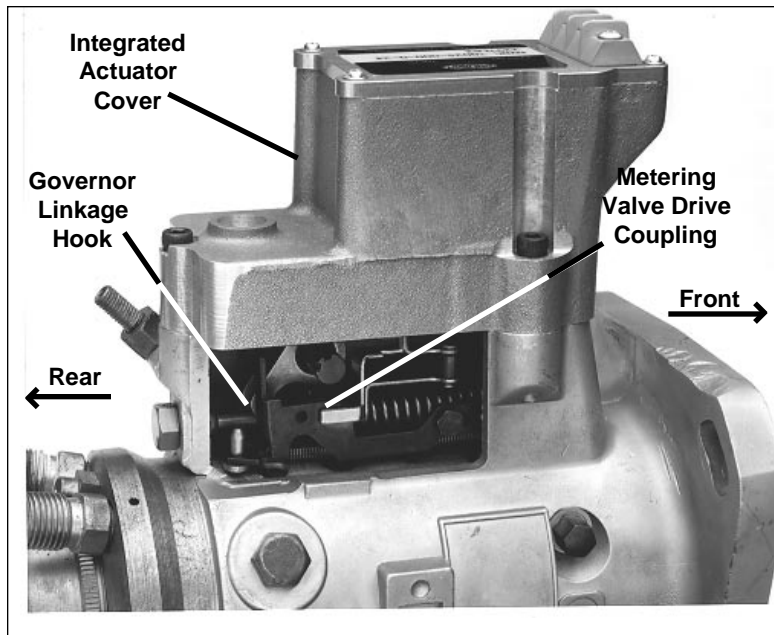

Figure 5
2.3 Carefully slide the INTEGRATED ACTUATOR COVER toward the rear of the pump until the horseshoe portion of the METERING VALVE DRIVE COUPLING contacts the pump's GOVERNOR LINKAGE HOOK as shown in *Figure 5*. Once contact has been made, continue moving the INTEGRATED ACTUATOR COVER in the same direction until the mounting holes between the INTEGRATED ACTUATOR COVER and the PUMP BODY are aligned.